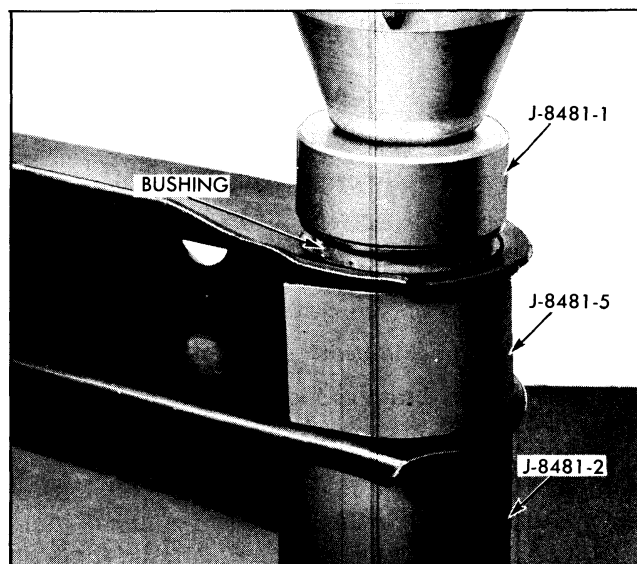

Fig. 3-36 Installing Rear Upper and Lower Control Arm Bushing
4. Install new bushing using installer J-8481-1 as shown in Fig. 3-36.
3. Install new bushing with installer J-8481-1 as shown in Fig. 3-36.